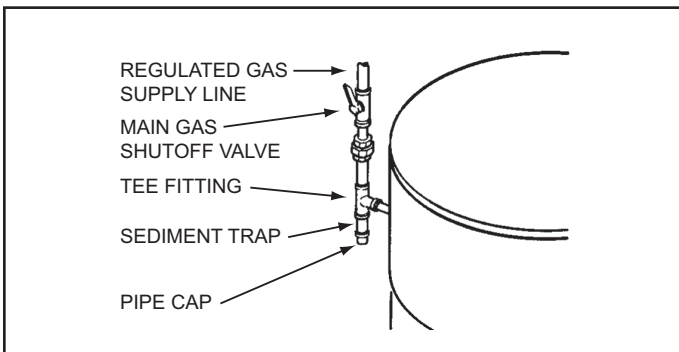

Figure 47
2. Install a 1/2 inch PVC condensate drain line between the condensate drain connection on the Exhaust/Condensate Elbow and a suitable building drain, see Figure 47.
3. Terminate the condensate drain piping with an elbow above the drain. Ensure that any discharge will exit the condensate drain line no more than 6 inches (15.2 cm) above a suitable building drain, or external to the building, see Figure 47.
4. Ensure the condensate drain line is not elevated above the condensate drain connection on the exhaust/condensate elbow, see Figure 47.
Ensure all gas pipe is clean on the inside before installation. To trap any dirt or foreign material in the gas supply line a sediment trap must be installed as shown in Figure 47. The sediment trap must be readily accessible and not subject to freezing conditions. Install in accordance with the recommendations of the local gas utility company.
6. Install a sediment trap as shown in Figure 47 on page 39.
7. Install a Main Gas Shutoff valve in the supply gas line as shown in Figure 47 on page 39.
1. For test pressures exceeding 1/2 psi (3.45 kPa) disconnect the water heater and its Main Gas Shutoff Valve from the gas supply piping system during testing, see Figure 47 on page 39. The gas supply line must be capped when disconnected from the water heater.